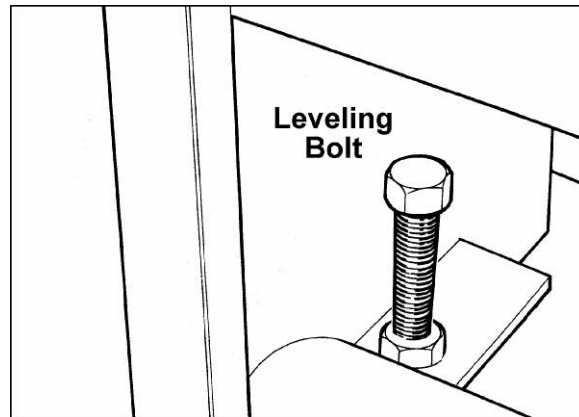

Figure 4
- When the machine has been placed in the intended location, it must be leveled in both directions to ensure smooth motion of the sliding table. Two leveling bolts must be inserted at the bottom of the frame before the machine is placed on the floor – one bolt under the pivot of the telescopic arm, and the other bolt under the electrical control panel. See Figure 4. These bolts must be positioned with bolt head upside down.